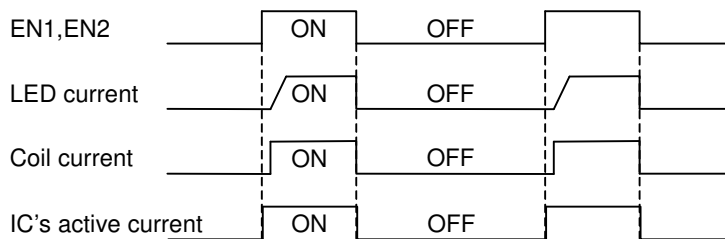

Figure 8. Power control PWM control
2)Power control PWM control is controlled by providing PWM signal to EN1, EN2 as it is shown Figure 8. The current setting set up with PWM logic is chosen as the H section and the current is off as the L section. Therefore, the average LED current is increasing in proportion to duty cycle of EN1, EN2 signal. This method is, because IC can be power-off at off-time, the consumption current can be suppress, and the high efficiency can be available, so it makes it possible to brightness control until 50µs (MIN1% at 200Hz). And, don't use for the brightness control, because effect of power ON/OFF time changeover is big under 50µs ON time and under 50µs OFF time. There is no effect of ON/OFF changeover at 0% and 100%, so there is no problem on use. Typical PWM frequency is 100Hz to 1kHz.